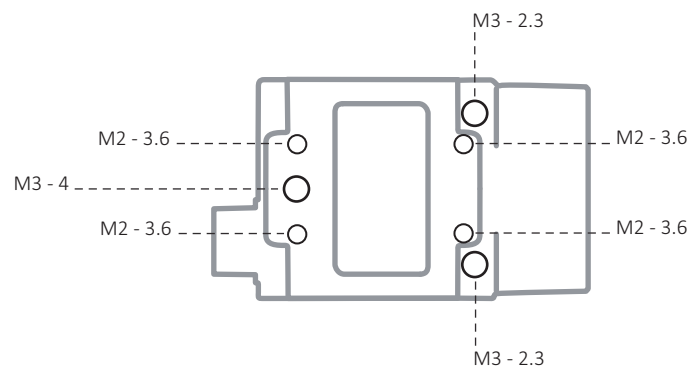

Figure 25: Mako U, Camera bottom with mounting threads
1. Attach the camera to the tripod adapter using the M3 mounting threads (see Figure 25 above).